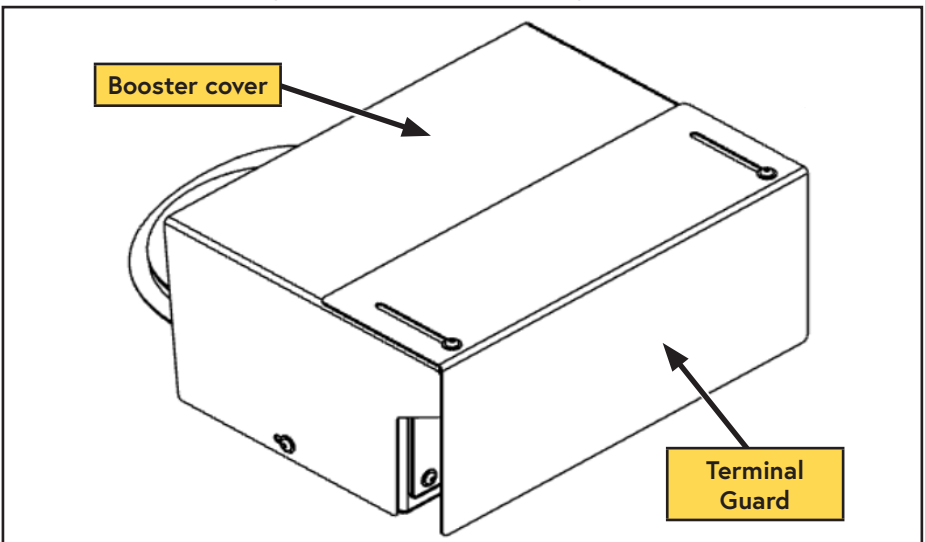

Figure 3 — Remove terminal guard (if installed)
- ☐ Remove the terminal guard and booster cover (Figure 3).